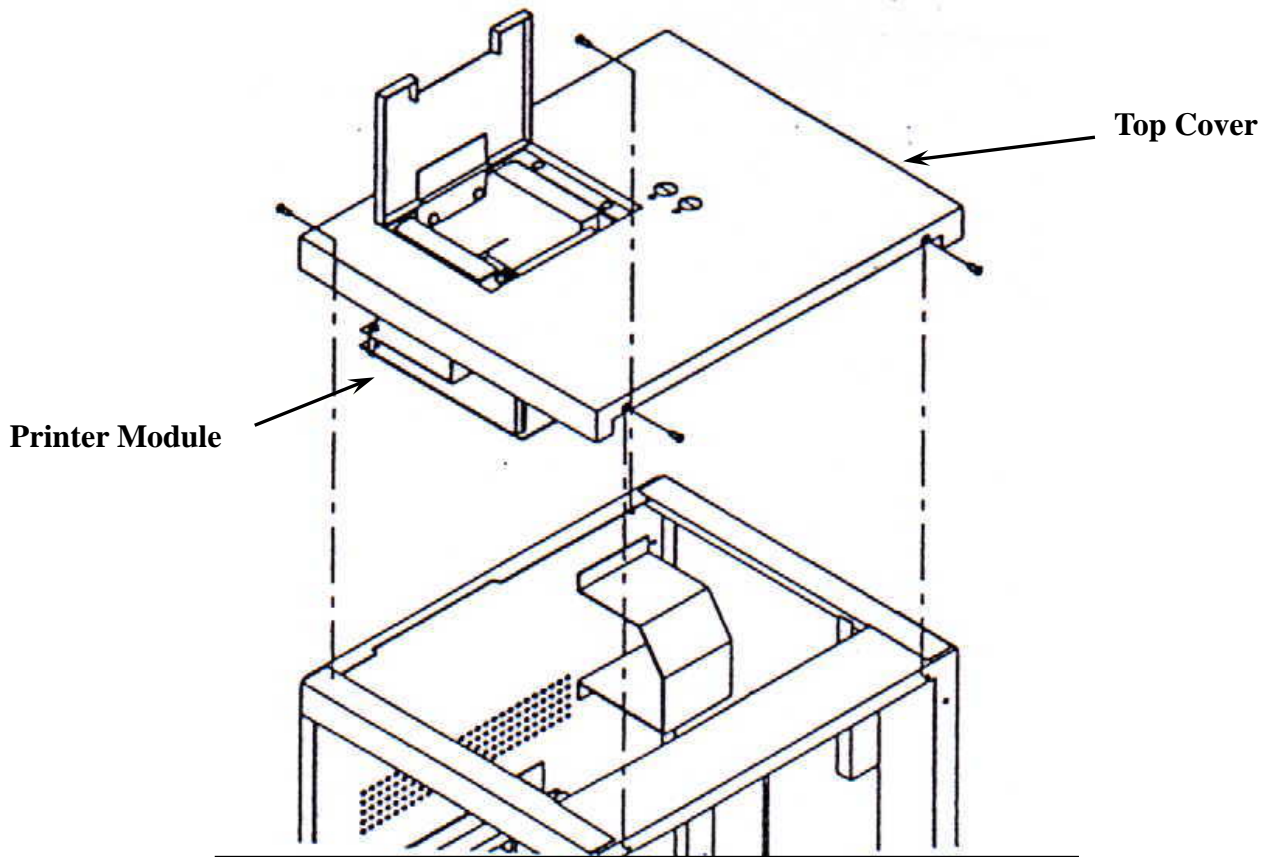

Figure 3-11. Printer Module Replacement 1.
5. Remove the four screws on the top cover (Figure 3-11).
7. Fasten the four screws on the top cover (Figure 3-11).